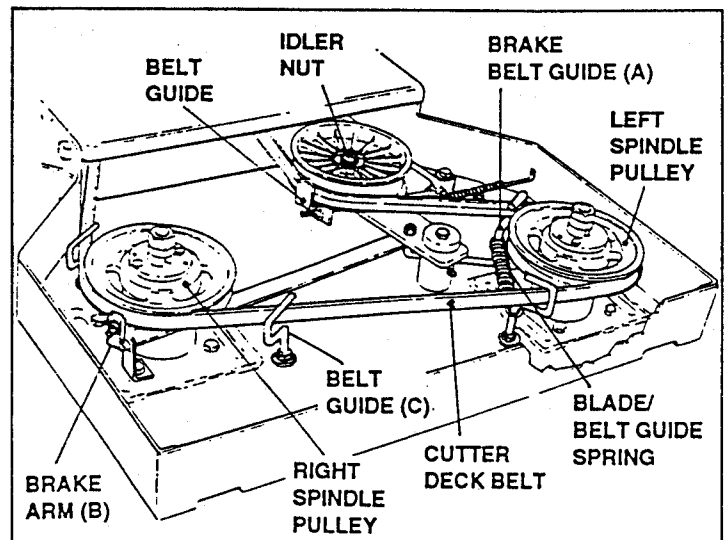

FIGURE 51
4. Pivot Brake/Belt Guide (A) away from left Spindle Pulley, while removing Cutter Deck Belt from left Spindle Pulley. See Figure 51.
5. Pull Brake Arm (B) outward off right Spindle Pulley, while removing Cutter Deck Belt from right Spindle Pulley. See Figure 51.
3. Pull Brake Arm (B) outward off right Spindle Pulley, while installing Cutter Deck Belt on right Spindle Pulley. See Figure 51.
4. Pivot Brake/Belt Guide (A) away from left Spindle Pulley, while installing Cutter Deck Belt on left Spindle Pulley. Make sure Cutter Deck Belt is placed in loop of Belt Guide (C), DO NOT allow Cutter Deck Belt to contact Belt Guides (C) when Belt is turning. See Figure 51.